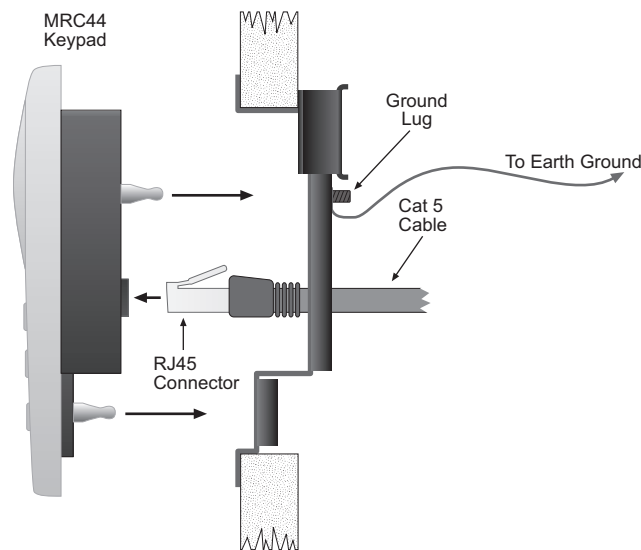

Figure 6 - Mounting and Installing the MRC88 Keypad
- b. Orient the Mounting Bracket so the ground lug is on the top portion of the bracket and run the supplied screws through the top front of the mounting bracket into the back-bar as shown in **Figure 6**.
5. Firmly snap the MRC88 Keypad into the bracket that you have just installed (see **Figure 6**).